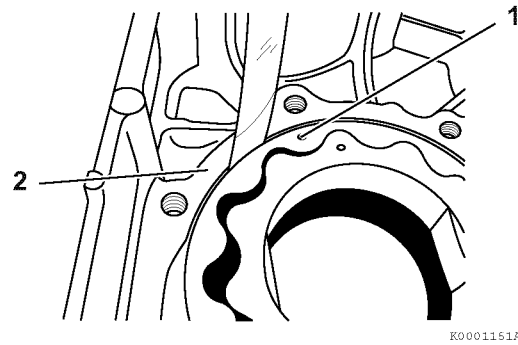

Figure 9-8
- Determine the outside clearance of the outer rotor. Insert a feeler gauge between the outer rotor (1, **Figure 9-8**) and the gear case oil pump cavity (2, **Figure 9-8**).